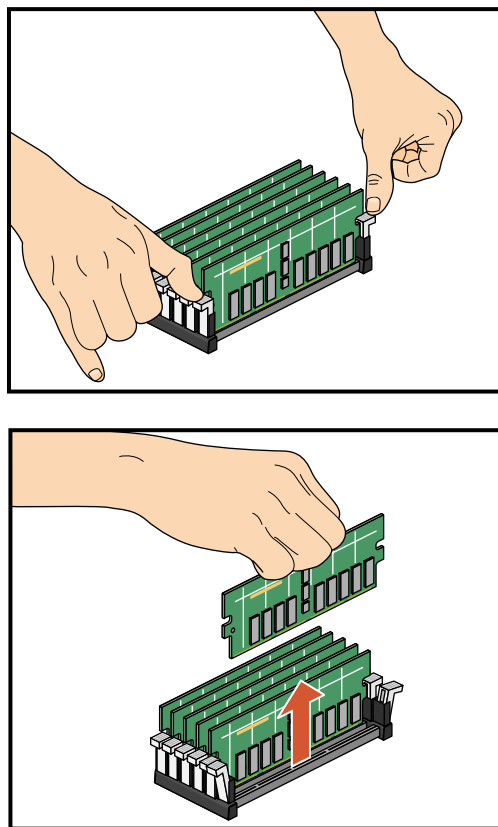

Figure 4-33 Removing a DIMM
6. Remove the DIMM, as follows (see Figure 4-33):